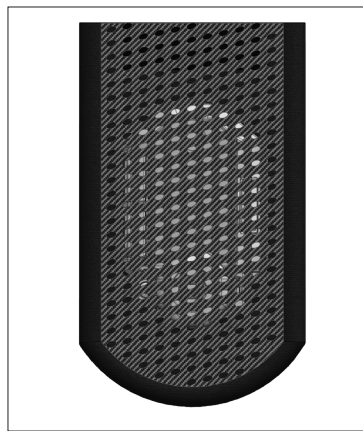

Figure 5
- 2.1.3** Insert the COVX into the COVXHOLDER. Ensure the LCD screen is visible through the mesh, as shown in Figure 5.